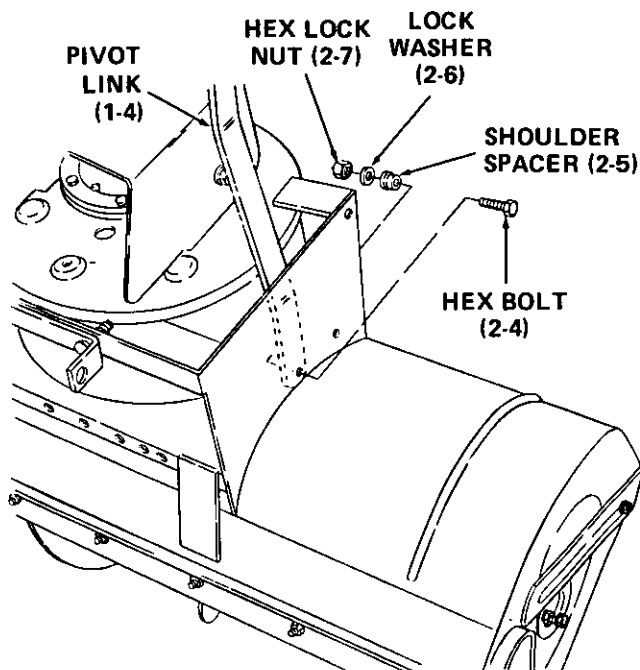

Figure 9
- b. Position pivot link over hole identified in step 3a, with bend toward inside, and insert hex bolt (2-4). Refer to Figure 9. Place shoulder spacer (2-5) on bolt with shoulder on spacer through pivot link. Secure with lock washer (2-6) and hex lock nut (2-7).